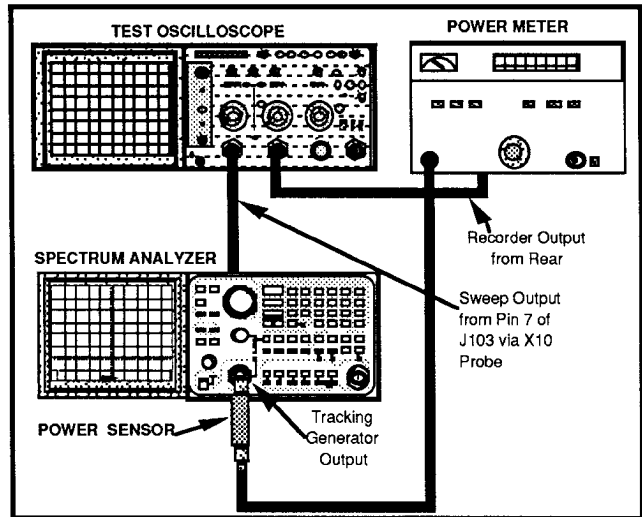

Figure 3-7. Test setup for measuring Tracking Generator flatness.
- (1) Recall default power-up settings by pressing UTIL 1 1.
- (2) Connect the test equipment as shown in Figure 3-7.
- (3) Select the following settings on the spectrum analyzer: